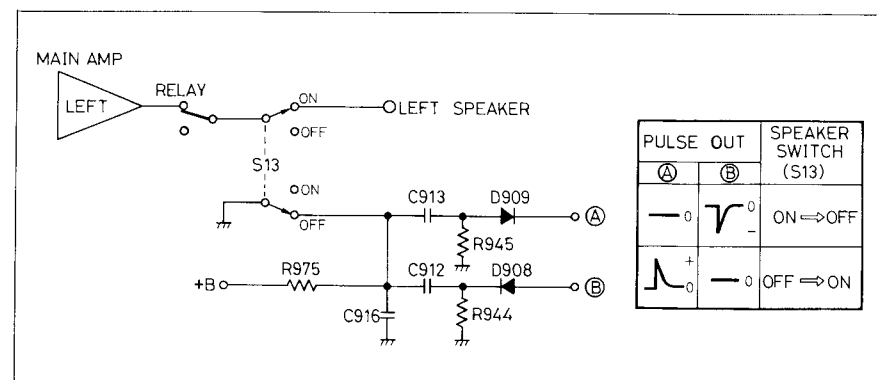

Fig. 4
This is circuitry which generates a positive pulse when a speaker switch is switched from off to on while this unit is operating, and generates a negative pulse when the switched from on to off (Fig. 4).
- When the speaker switch is switched from on to off, the charge applied to C912 is suddenly discharged, D908 becomes forward biased, and a negative pulse can be obtained from (B) in figure 4.
- When the switch is switched from off to on, a positive voltage (+B) is suddenly charged to C913. D909 becomes forward biased, and a positive pulse can be obtained from (A) in figure 4.